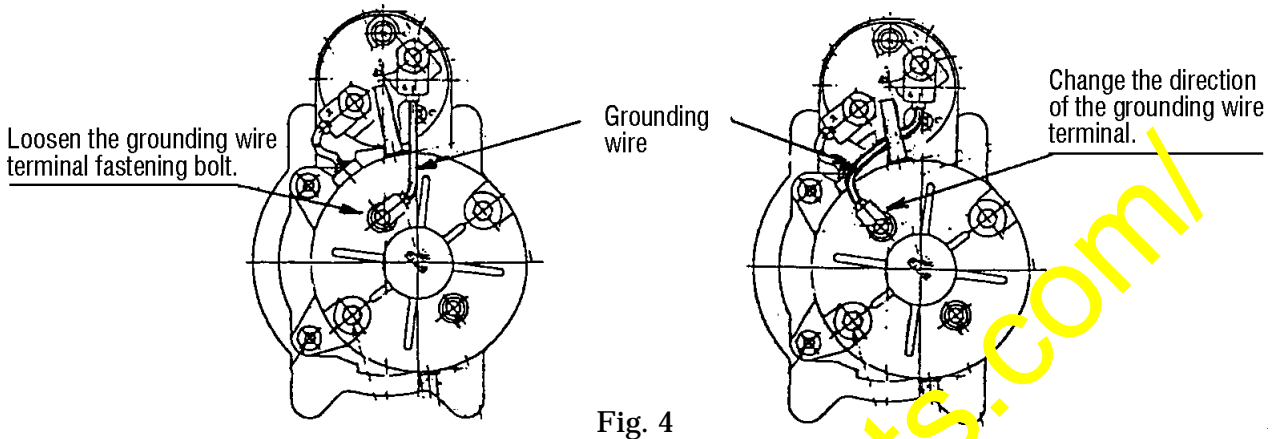
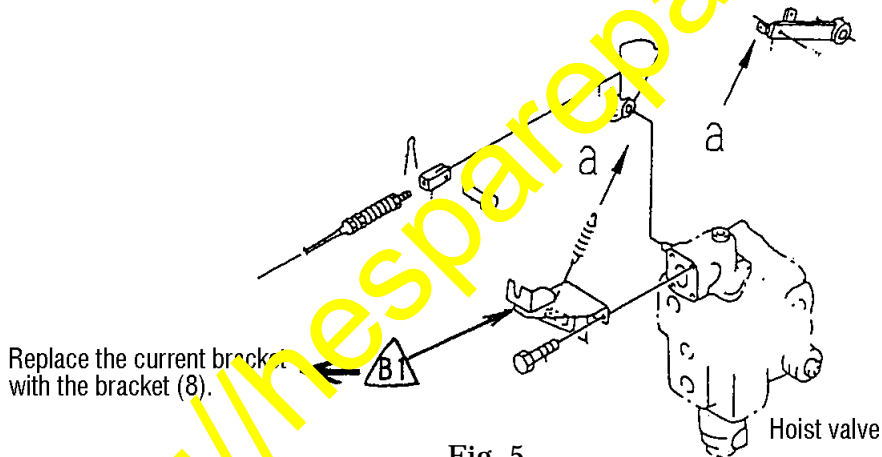
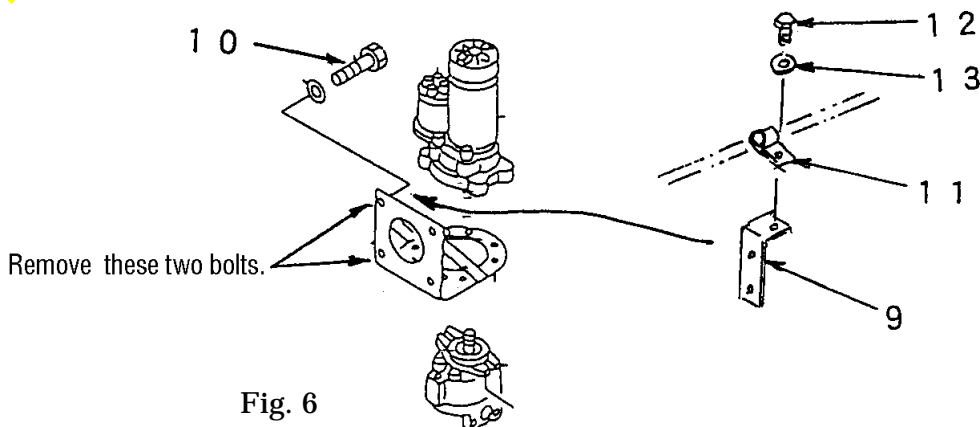
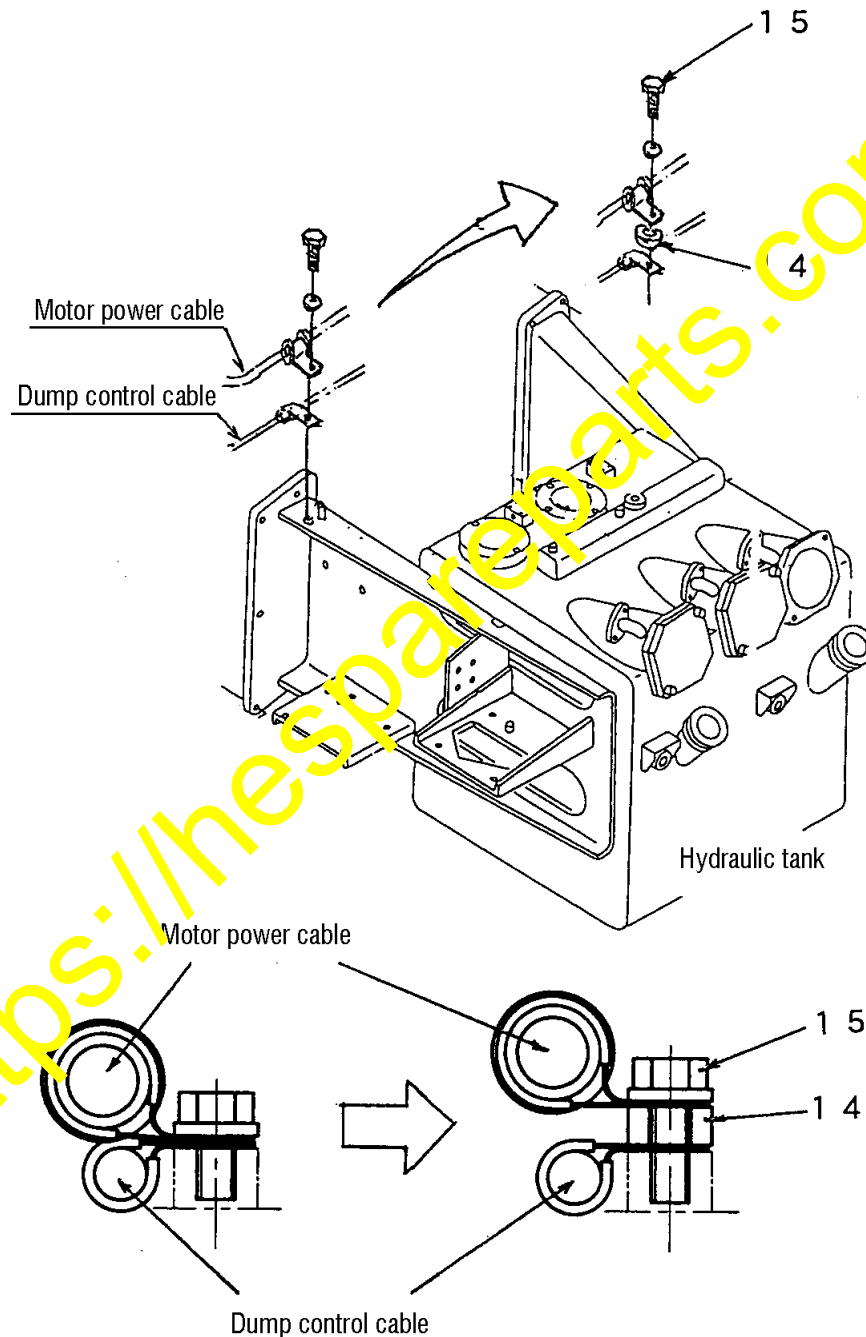

Fig. 4
Fig. 5
Fig. 6
Fig. 7
4.3 Changing the layouts of the dump control cable and of the grounding wire for the emergency steering motor. (Refer to Fig. 4, Fig. 5, Fig. 6, Fig. 7 and Fig. 8.)
4.3.1 Changing the layout of the grounding wire for the emergency steering motor. (Refer to Fig. 4.)
4.3.2 Changing the bracket for the dump control cable. (Refer to Fig. 5.)
4.3.3 Supplementing the cable clamp to the dump control cable (Refer to Fig. 6.)
#### 4.3.4 Supplementing the washer to motor power cable clamp (Refer to Fig. 7.)